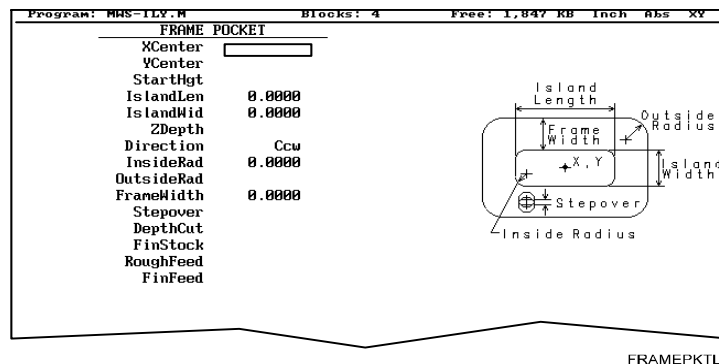

Figure 4-18, FRAME POCKET Graphic Menu
2. Highlight **Frame** and press **ENTER** to display the **FRAME POCKET** Graphic Menu. Refer to **Figure 4-18**.